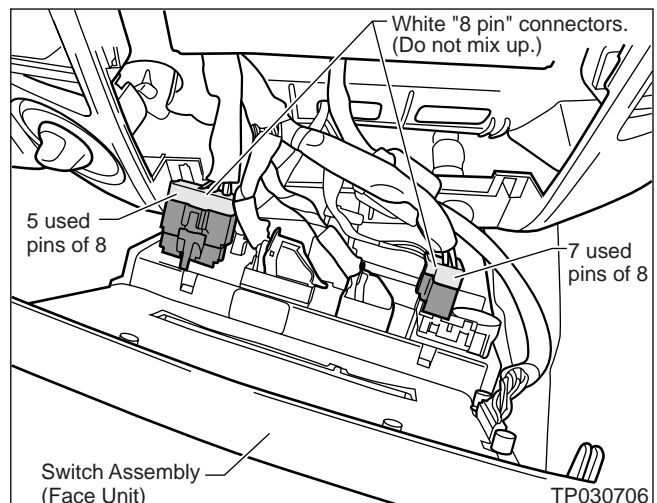

Figure 3
5. Mark the location of the two “white-8 pin connectors” with a felt maker so they won’t be mixed up (see Figure 3).
- **Do not** mix up the white 8-pin connectors (see Figure 3).